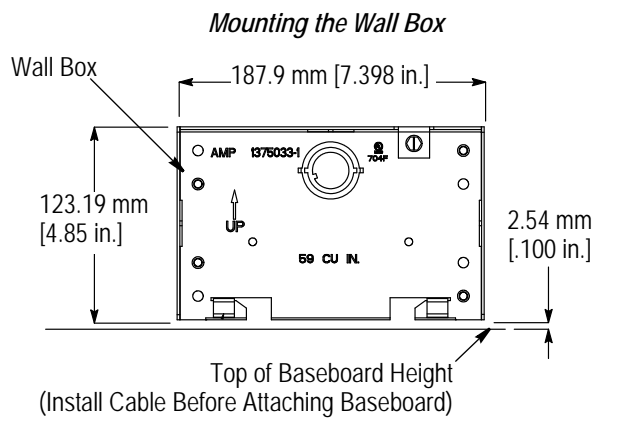

Figure 2
3. Position the wall box on the wall so that it is parallel to the floor and the “UP” arrow is pointing away from the floor. The wall box should be approximately 2.54 mm [.100 in.] above the baseboard height to allow clearance for installing the cover. Secure the wall box to the wall using four screws (customer-supplied). Refer to Figure 2.